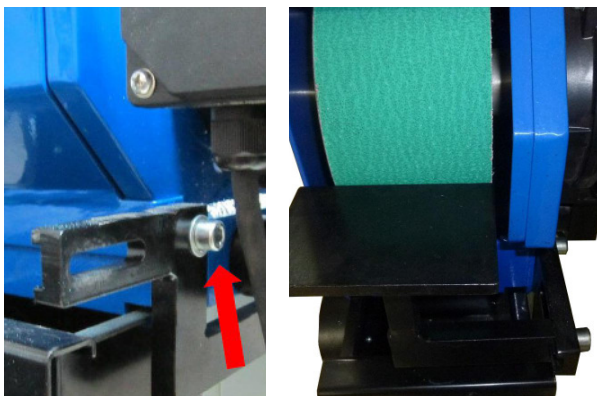

Fig. 19: Open the Cover
Step 18: When the correct radius has been ground, remove the tube from the clamp and remove the outer ridge with the face grinding surface (2).
Step 4: Open the cover on the back of the device. To do this, unscrew the hexagon socket screw (Fig. 19 left, arrow) and open the cover upwards.